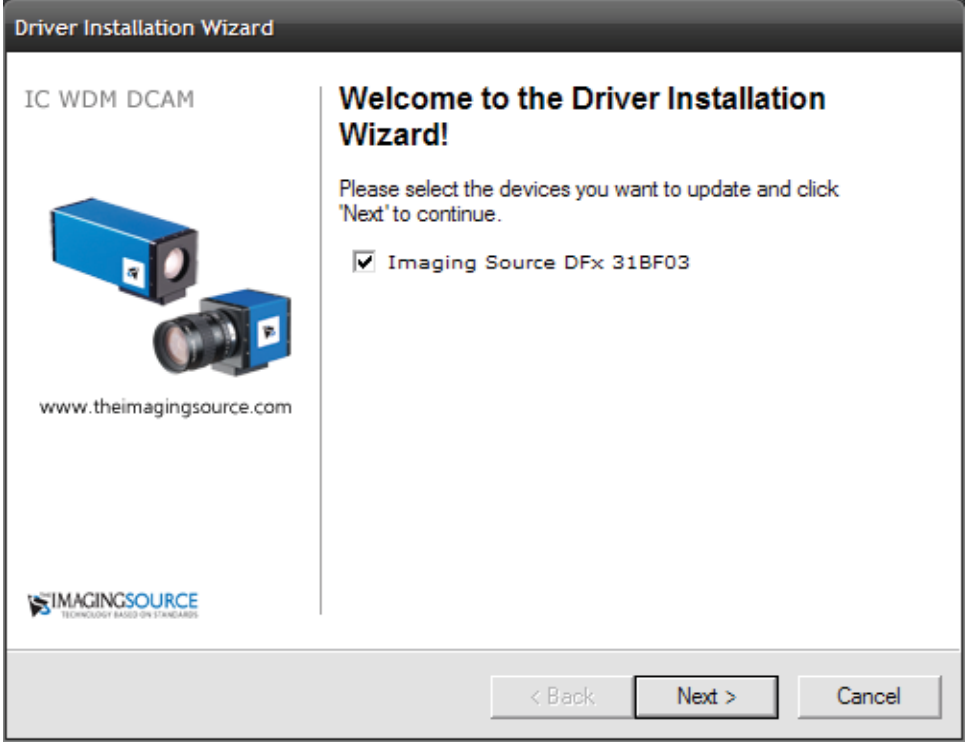

Fig. 5-18
- 8. When the camera has been connected, a message informing that new equipment was found and successfully connected is displayed at the right bottom of the screen. Then the Driver Installation Wizard window will appear (Fig. 5-18).